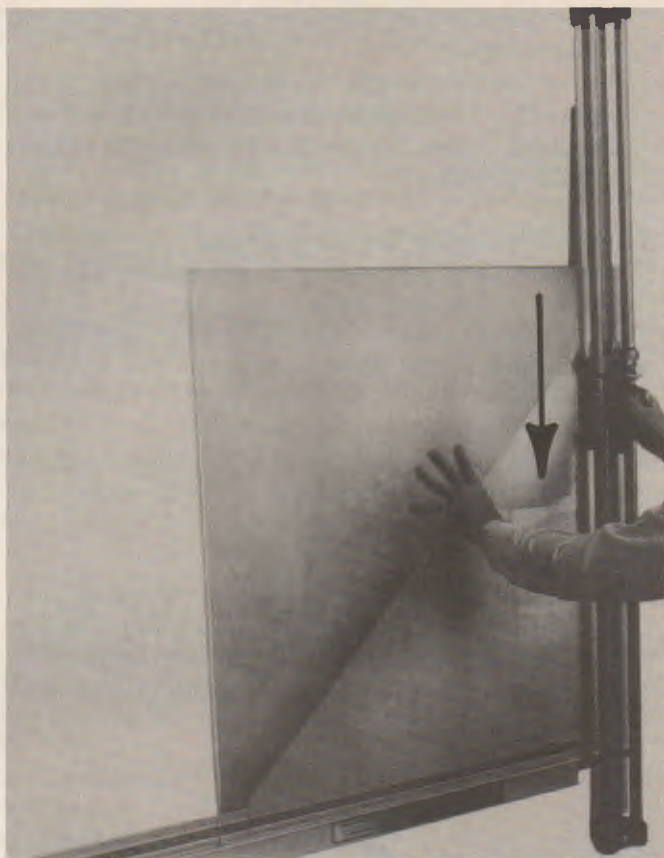

Fig. 15-6. A glass cutting machine assures a straight cut. (Brodhead-Garrett)
2. With firm pressure, pull the cutter downward across the glass, Fig. 15-6.